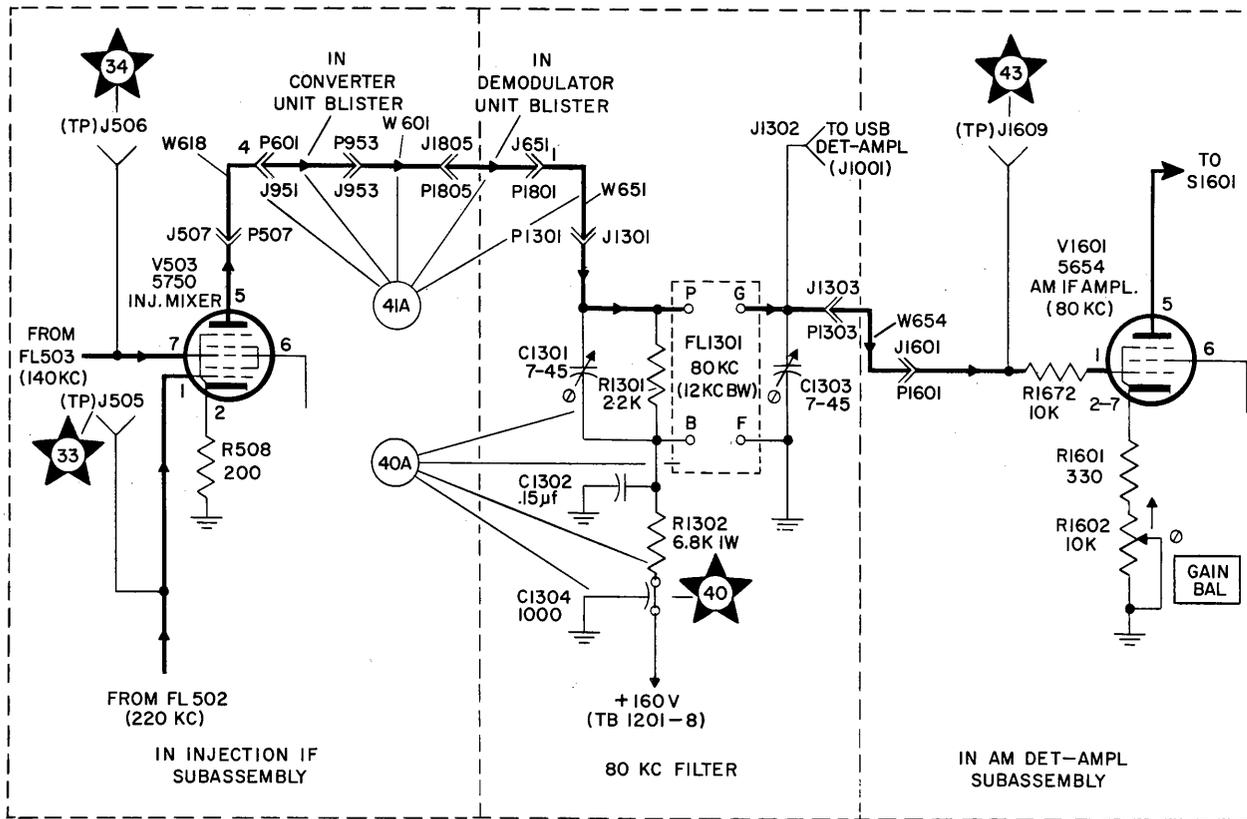
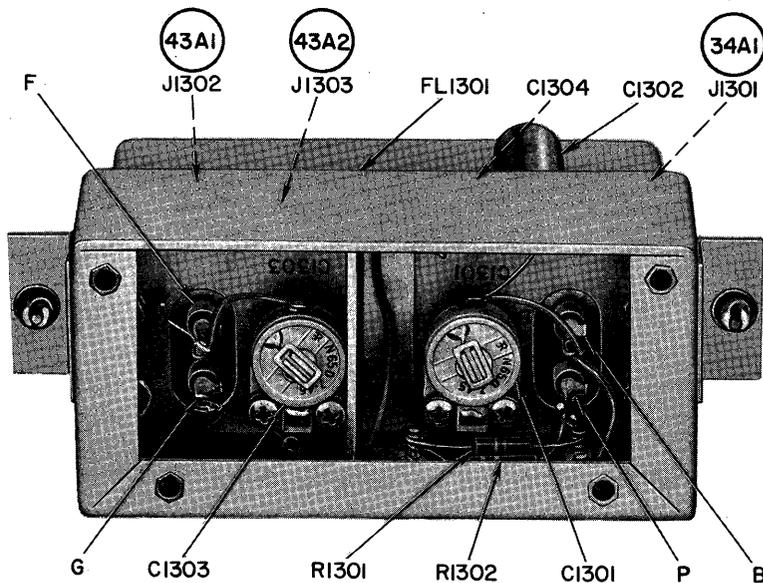

Figure 5-24. 80 Kc Filter, Functional Schematic Diagram
Figure 5-25. 80 Kc Filter, Location of Parts and Test Points
a. DIAGRAMS.— Figure 5-24 is a functional schematic diagram of the 80 kc filter, and figure 5-25 shows the location of parts and test points. Refer also to figure